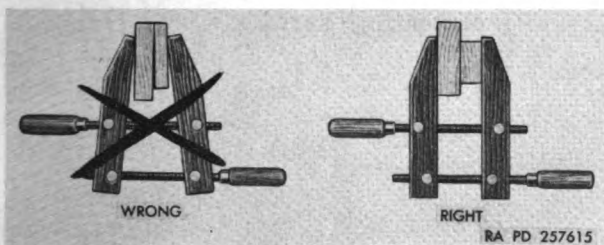

Figure 145. Using hand screw clamps—jaws parallel.
a. When using the hand screw clamp, keep the jaws parallel to apply even pressure along the work and to properly hold the pieces of work together (fig. 145).